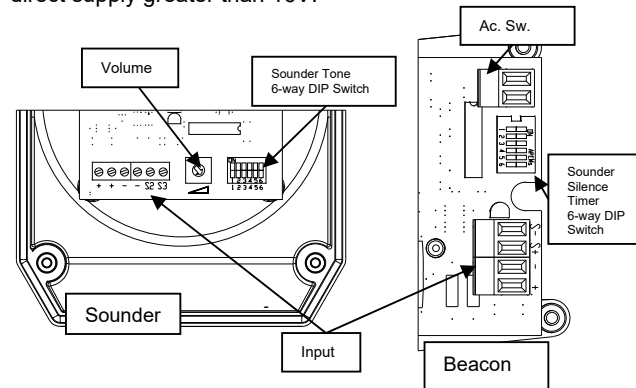

Fig 2 Location of field terminals and controls.
- Remove the PVC grommet and fit a M20 x 1.5 cable gland or conduit entry into the hole in the enclosure and connect the field wiring to the appropriate combined sounder beacon terminals as shown in sections 5 & 6 and fig 2 of this manual. The power supply terminals + and - are duplicated so that combined sounder beacons may be connected in parallel, or an end of line monitoring resistor may be fitted.
- Select the required sounder output tone by positioning the 6-way DIP switch as shown in Table 2.0 and Fig 2.
- If required, set sounder silence timer delay using the 6-way DIP switch as shown in Table 3.0 and Fig 2.
The output level of the IS-DL105 combined sounder beacon can be set by adjusting the volume control potentiometer (see Fig 2).
Tone Selection – To select the required first stage tone set the tone switches 1 to 6 (see Fig 2) to the tone setting shown in the table below. The table also shows which 2nd and 3rd stage tones are available for use with the selected first stage tone if more than one tone output stage is required.